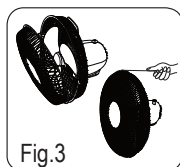

Fig.3
4. Open the clips on the front protective guard and place the front protective guard on the rear protective guard (align the locking screw holes) and close tabs. Tighten the locking screw and nut. (Fig. 3)